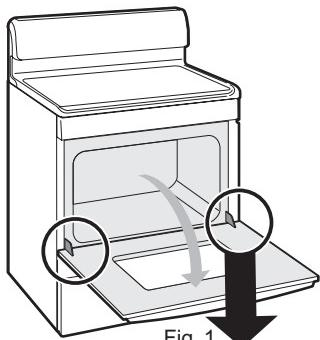

Fig. 1
2. Remove broiler pan & insert (See Fig. 1).
1. Open oven door completely (horizontal with floor - See Fig. 1).